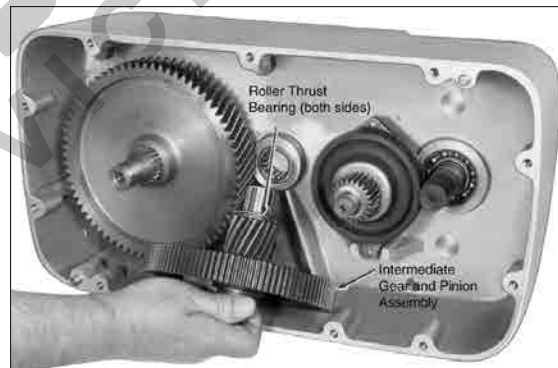
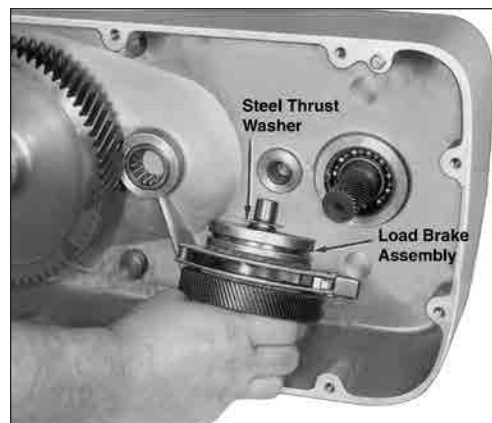

Figure 5-4. Removing Intermediate Gear and Pinion Assembly
Figure 5-5. Removed Load Brake Assembly
- To inspect gearing, pull out intermediate gear and pinion assembly and roller thrust bearings (Figure 5-4), and load brake assembly (Figure 5-5). Do not remove drum gear unless visual inspection indicates replacement is necessary.
- h. Install gearing and load brake assembly in gearcase in reverse order of disassembly. Be certain roller thrust bearings are installed at both ends of intermediate gear shaft as shown in Figure 5-4 and that thrust washers are properly installed at both ends of load brake shaft as noted below:
1. A steel thrust washer with 5/8" I.D. must be installed on the brake flange end (end opposite pinion) of load brake as shown in Figure 5-5.